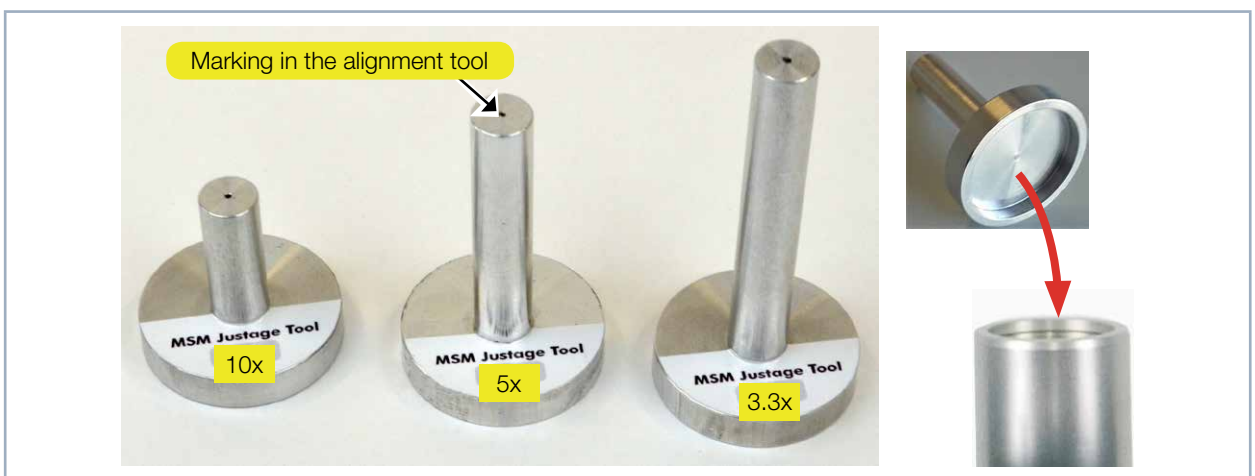
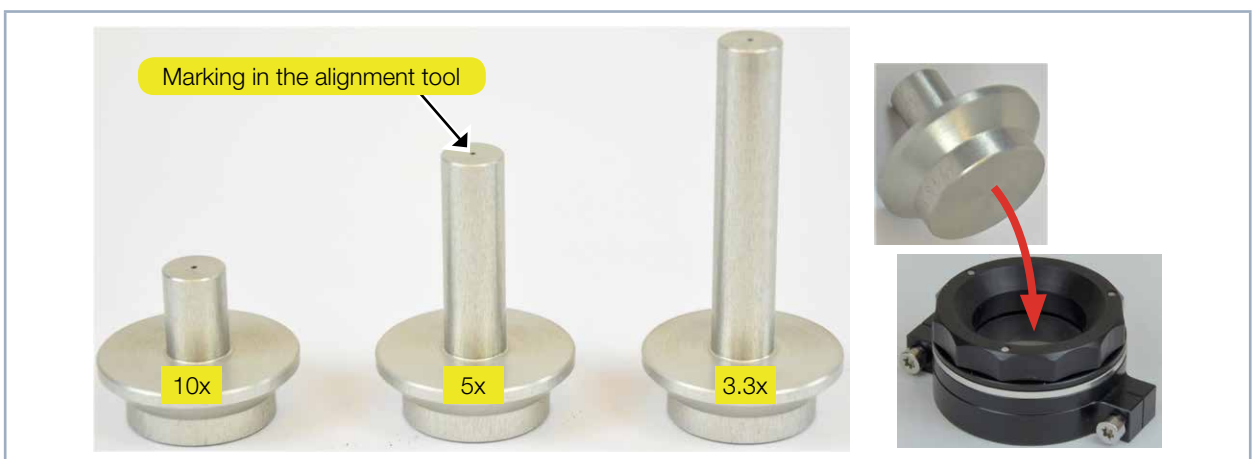

Fig. 7.2: Alignment tools for direct placement on the measuring objective
Fig. 7.3: Alignment tools for placement on the protective window holder on the measuring objective
1. Place the alignment tool directly on the measuring objective (see Fig. 7.2 on page 19) or on the protective window holder on the measuring objective (see Fig. 7.3 on page 19).